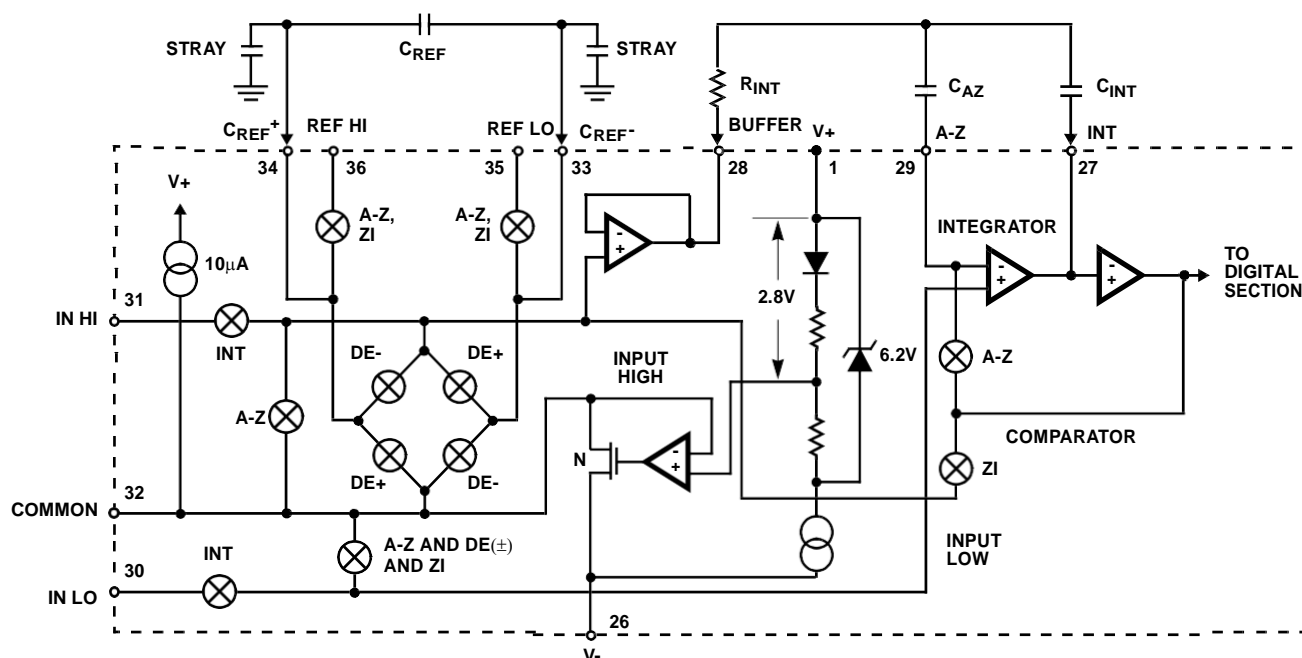

FIGURE 2. ANALOG SECTION OF HT7126A
Figure 2 shows the Analog Section for the HT7126A. Each measurement cycle is divided into four phases. They are (1) auto-zero (A-Z), (2) signal integrate (INT) and (3) de-integrate (DE), (4) zero integrate (ZI).